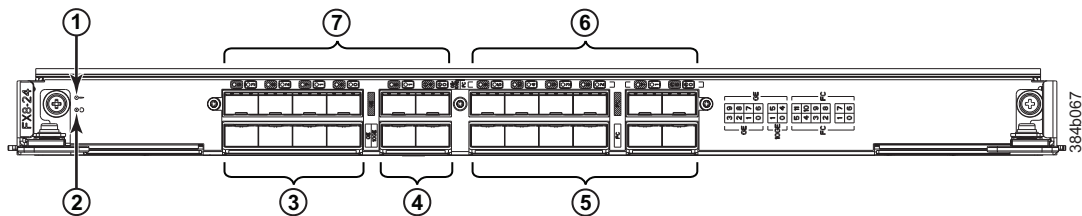

Figure 60. FX8-24 extension blade
- Figure 60 on page 153 shows an FX8-24 extension blade